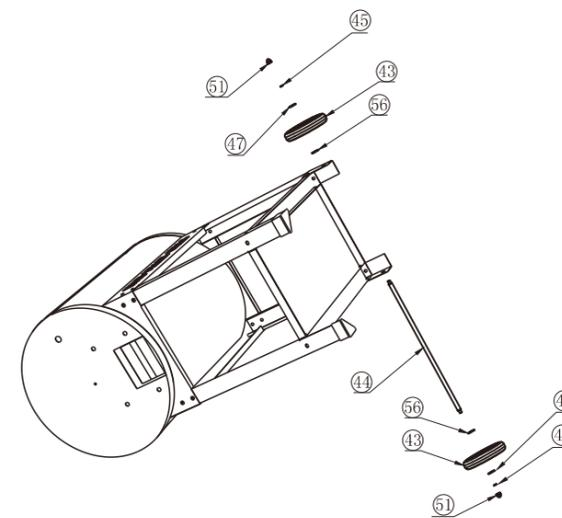

Figure 3
- 4.) Attach Axle(44) go through the holes of Right Rear Leg(41) and Right Front Leg(42). Attaching $\Phi 13 \times \Phi 25 \times 2$ mm Gaskets(56) for right side and left side, then assembly respectively Wheels(43), $\Phi 8.5 \times \Phi 25 \times 2$ mm Gaskets(47), Spring Washers(45) and Gap Nuts(51), after that using wrench to tighten them. As shown in Figure 3.